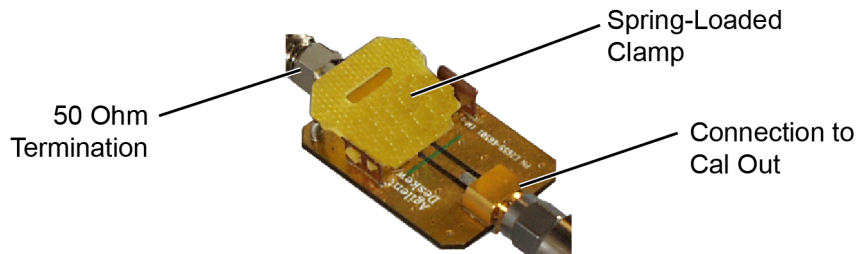

Figure 11 E2655B PV Fixture with 50 Ohm Termination
- Connect the PV fixture's input to the oscilloscope's calibration output as shown in Figure 11 on page 29. Connect a 50 ohm terminator to the PV's output.